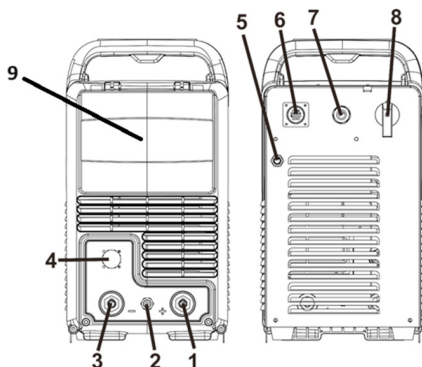

Figure 1: Device design
Table 2: Device components according to Figure 1.
5. Switch on the device using the main switch (8) as shown in Figure 1.